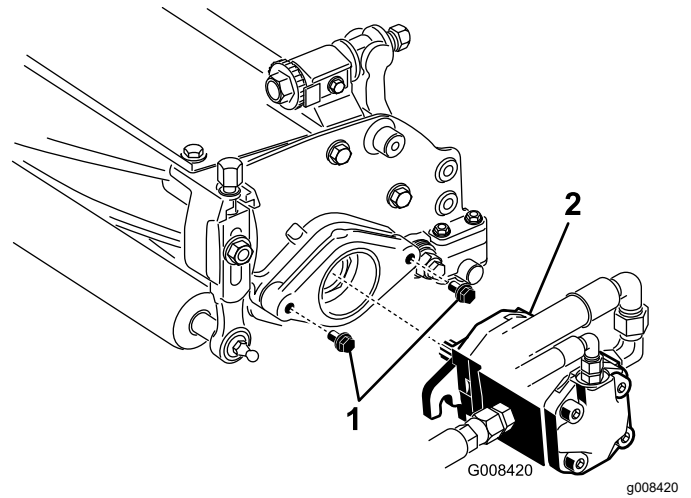

Figure 8
7. Ensure that there is approximately 13 mm (1/2 inch) of the threads exposed on each reel-drive-motor mounting bolt (Figure 8).
8. Coat the motor spline shaft with clean grease and install the motor by rotating the motor clockwise so that the motor flanges clear the studs. Rotate the motor counterclockwise until the flanges encircle the studs (Figure 8).
9. Tighten the mounting bolts (Figure 8).